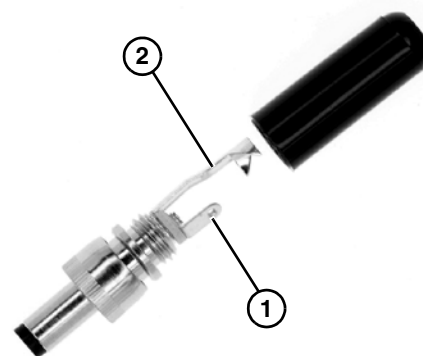

Figure 20
2. Wire and solder DC power to the two terminals of the provided DC power plug. Wire +VDC to the short lug (**Figure 20, item 1**) and -VDC to the long lug (**Figure 20, item 2**).